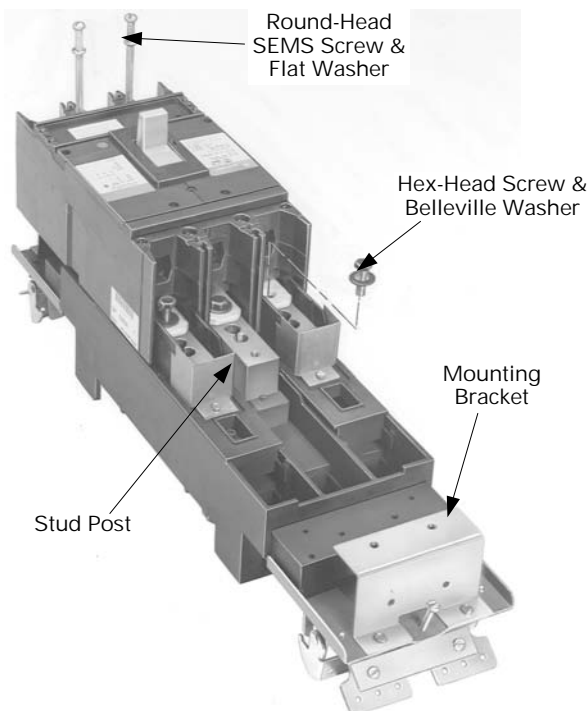

Figure 5. Installing the breaker on the module.
4. **Install the circuit breaker(s).** Place the Belleville washers and hex-head screws into the line straps of the circuit breaker, as shown in Figure 5. Position the ON side of the breaker on the module, as shown in Figure 5. Align the hex-head screws in the stud-post holes and tighten to 90–110 in-lb. Fasten the OFF side of the breaker to the mounting brackets with the round-head SEMS screws and flat washers and tighten to 40–50 in-lb. Repeat the procedure for a second breaker.